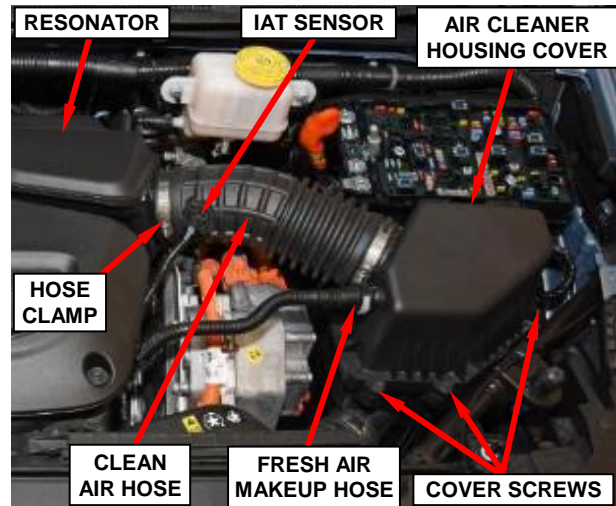

Figure 18 – Air Cleaner Assembly
11. Disconnect the fresh air makeup hose from the air cleaner body (Figure 18).
12. Disconnect the wire harness connector from the Inlet Air Temperature (IAT) sensor (Figure 18).
13. Loosen the clean air hose clamp and disengage the clean air hose from the resonator (Figure 18).